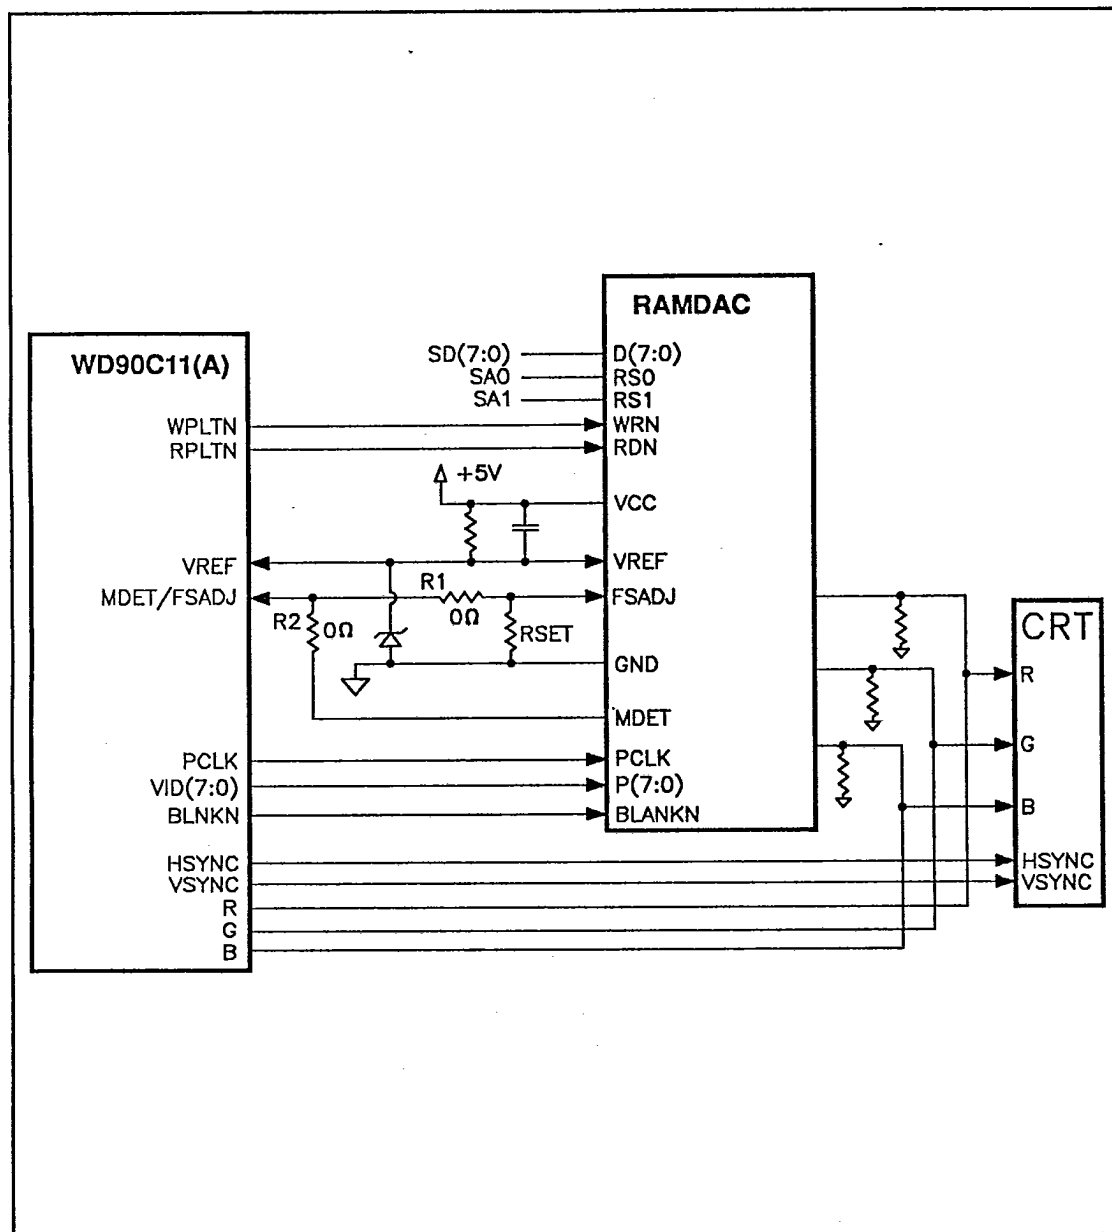

FIGURE A-7. WD90C11(A) WITH RAMDAC INTERFACE
Figure A-7 illustrates the WD90C11(A) and RAMDAC interface block diagram for analog monitors.